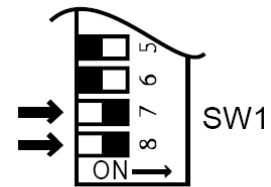

Fig. 5
13. Set the Rinnai Infinity to 'Forced High' combustion by setting No. 7 and No. 8 dipswitches to 'ON' (Fig.5). Ensure maximum water flow.